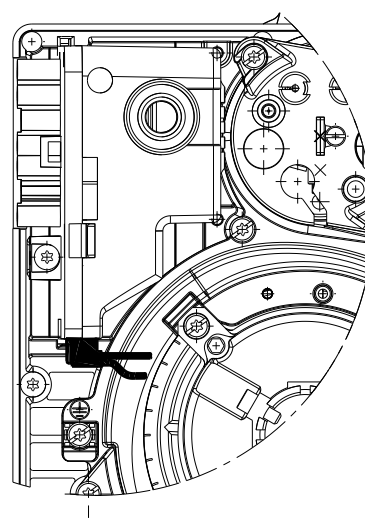

Fig. 21
- Check proper insertion of connection connectors according to the symbols shown on the bottom of the flame control equipment: make sure that the connectors are fully inserted by pushing them all the way in, each in its relevant position. All connectors must have the connection cables facing towards the inside of the burner (See Fig. 21).